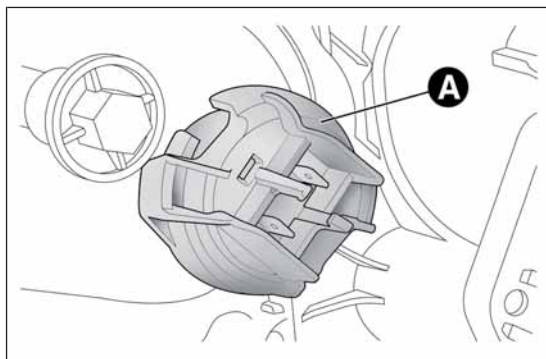

fig. 134
- ☐ remove cover A fig. 134 protecting the bulb;